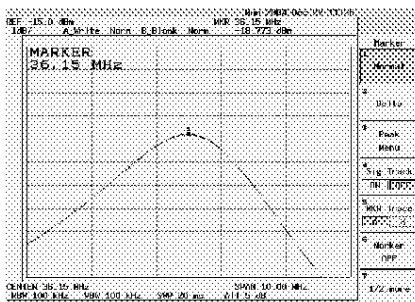

Fig. 3
- Calibrate C23, L9 to tune the equalisation cell to the middle of the intermediate frequency (Fig.3) with JP5 on and JP3 and JP4 off.